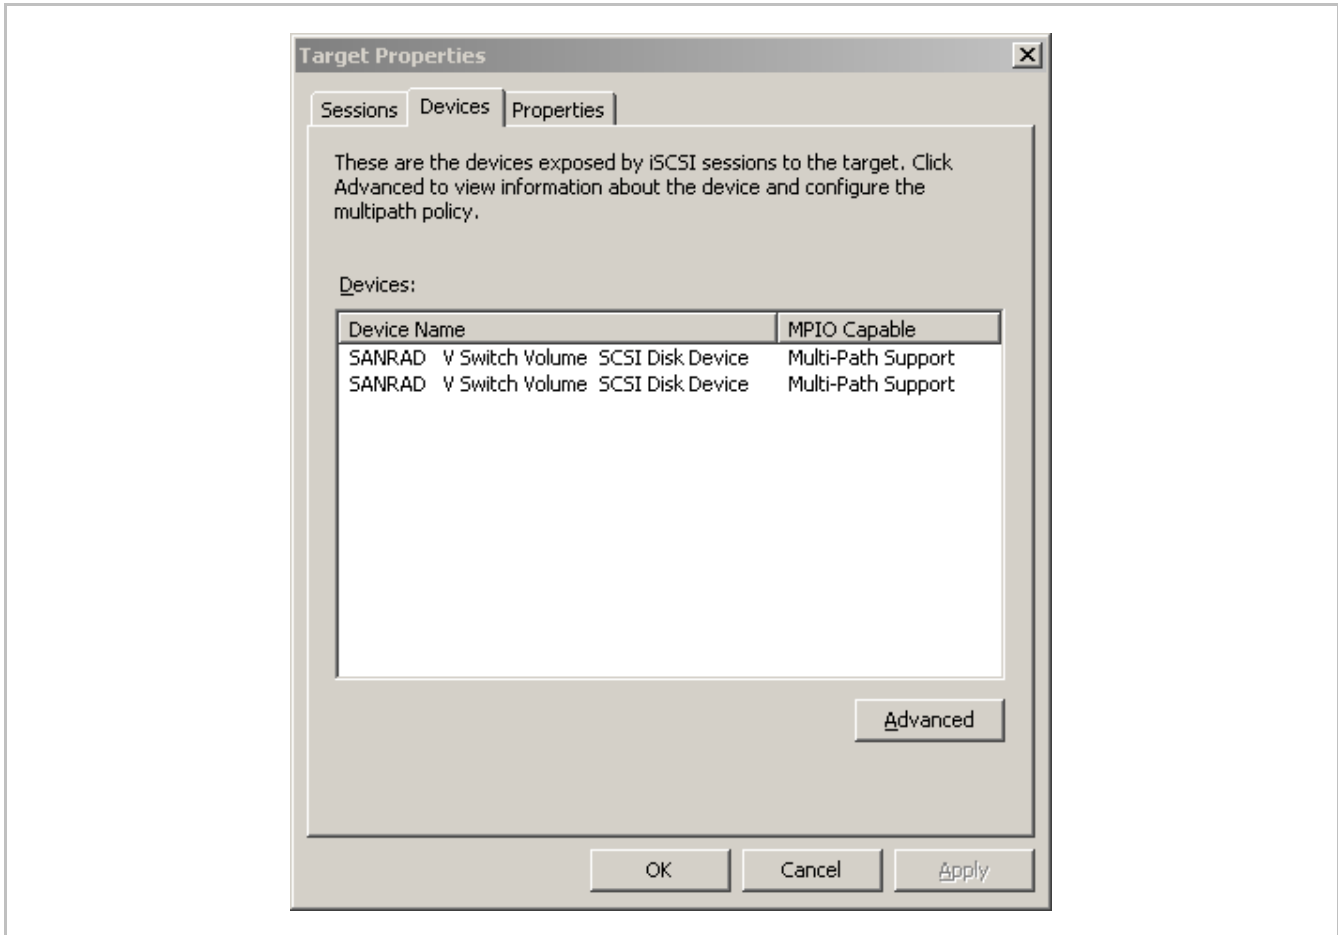

Figure 9. Verify – Target Properties Window
3. Click the Devices tab (Figure 9).